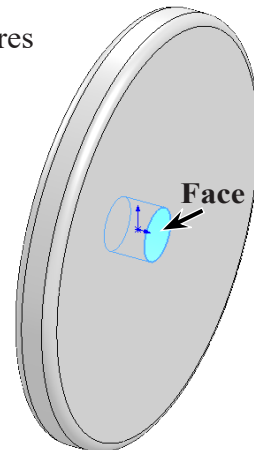

Fig. 8
Step 1. Click **inside cylindrical face of axle hole** to select it, Fig. 8.